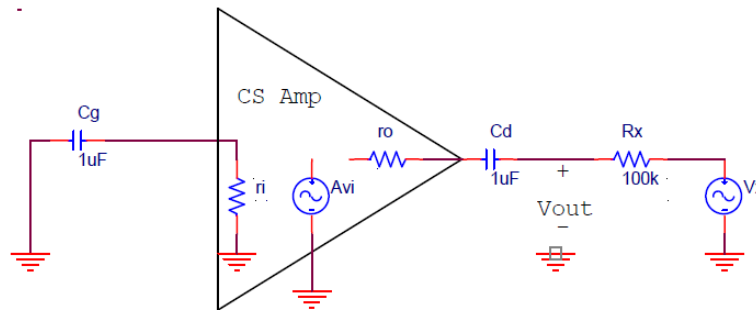

Figure 8-7 Output Impedance Measurement Setup
22. Measure the output impedance r_o . To do this, use the setup shown in the circuit diagram in Figure 8-7. Use the same input signal from the function generator (100mVp-p @ 1kHz).